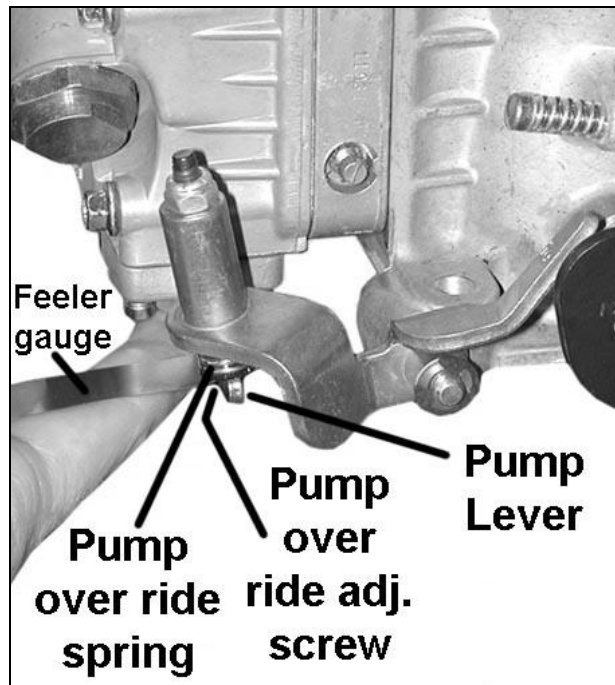

Figure 2—Accelerator Pump Adjustment Procedure
11. The accelerator pump should be adjusted so that the slightest movement of the throttle lever results in actuation of the accelerator pump. The pump override spring adjustment is checked while holding the throttle in the open position and the pump operating lever held in a fully compressed position. The clearance between the adjusting nut and the arm of the pump lever should be .015". See figure 2